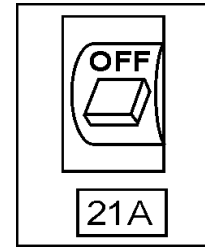

Figure 23. Main Circuit Breakers (Off)
- Place the main circuit breaker (Figure 23) in the **OFF** position.